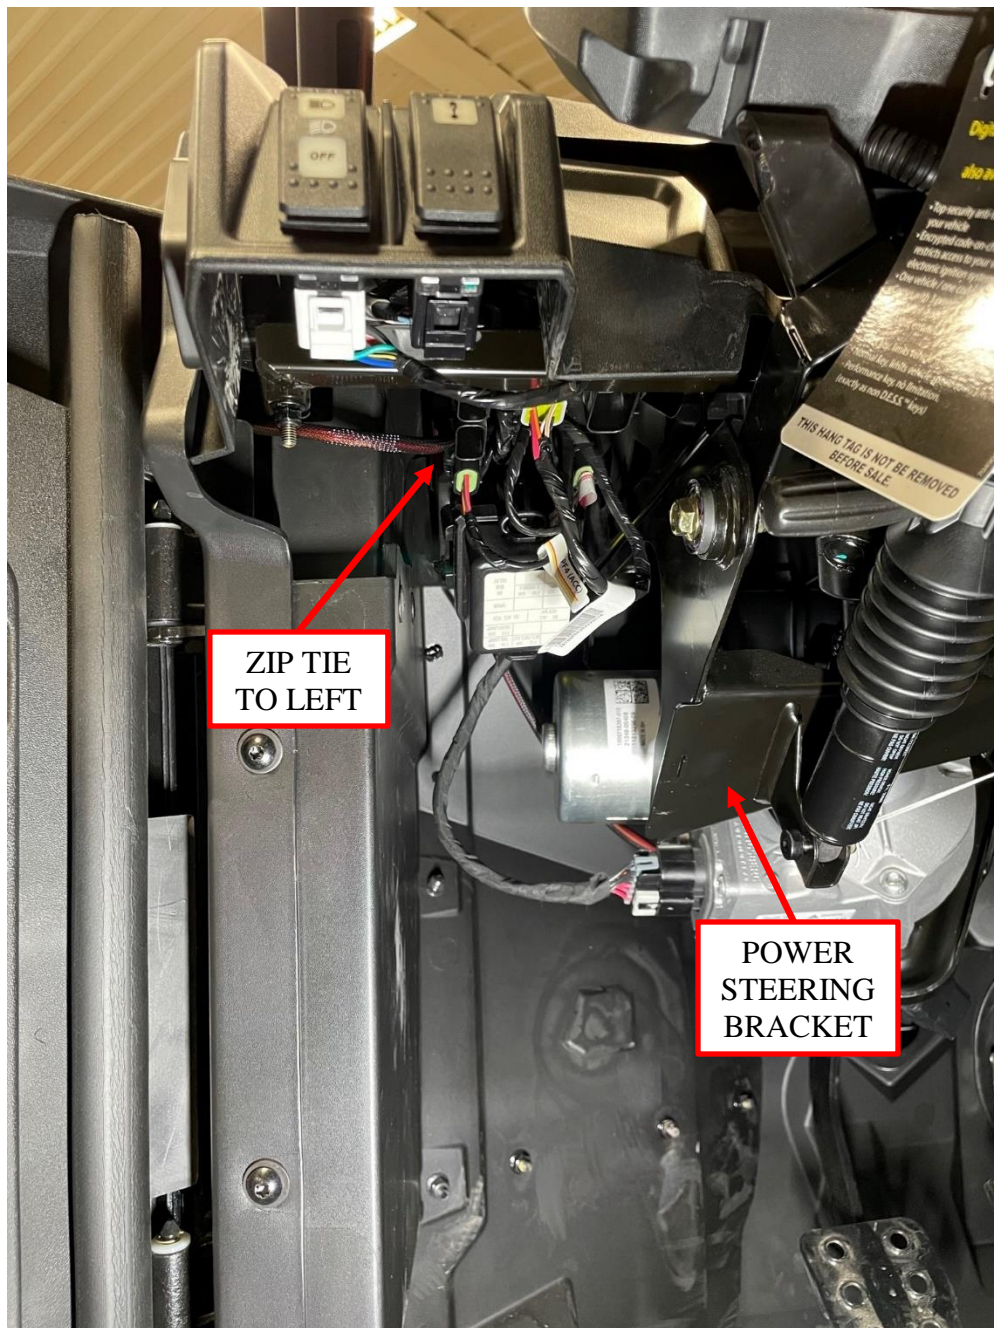

Figure 15: Route the chassis harness around the top of the power steering bracket.
10. Route the chassis harness up under the dash to the top side of the power steering bracket, and loosely zip tie the harness to the left of the power steering bracket. See Figure 15.